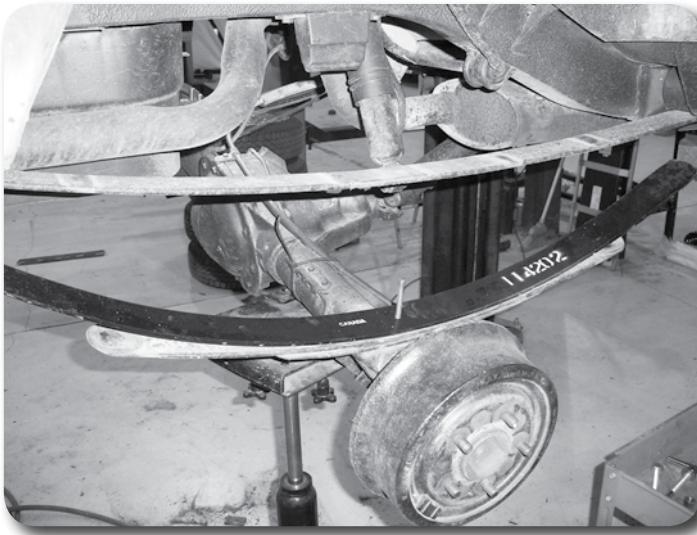

Figure 4
9. The leaf lengths get shorter as they go from the top leaf in a pyramid shape (Figure 4). Insert the supplied add-a-leaf in the appropriate position to form a pyramid shape. Using the C-clamps on each side of the center pin hole, compress the leafs together while aligning the new center pin through all of leaf center pin holes (from the bottom up). With the pack completely compressed together with the clamps, fasten the center pin with the provided nut. Torque nut to 20 ft-lbs. Cut off any excess center pin. Do not use the center pin to compress the pack together.